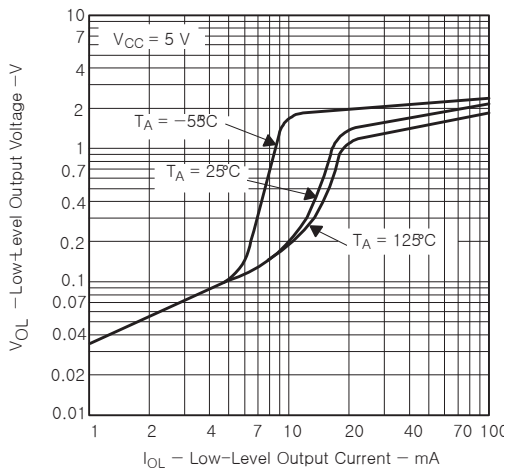

Figure 1. Low-Level Output Voltage vs Low-Level Output Current
1. This parameter influences the maximum value of the timing resistors R_A and R_B in the circuit on Fig 1. For example, when $V_{cc}=5\text{V}$, the maximum value is $R=R_A+R_B=3.4\text{ M}\Omega$, and $V_{cc}=15\text{V}$, the maximum value is $10\text{ M}\Omega$.
5. Values specified are for a device in an astable circuit similar to Fig. 1, with component values as follow: $R_A, R_B=1\text{K}\Omega$ to $100\text{ K}\Omega$, $C=0.1\mu\text{F}$.